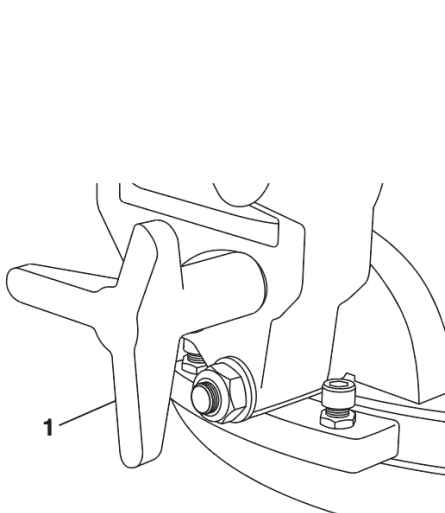
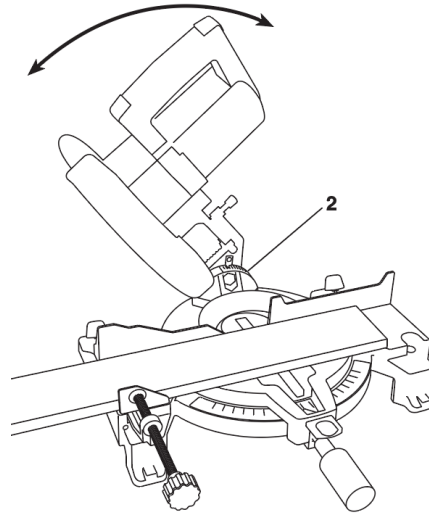

Fig. 24
Fig. 25
- 1 . Loosen the bevel lock knob 1 (Figure 24). Rotate the blade to the desired bevel angle using the bevel index 2 . Tighten bevel lock knob (Figure 25).